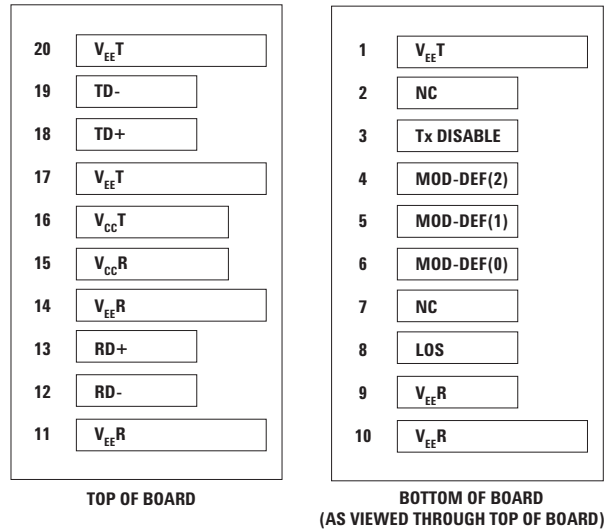
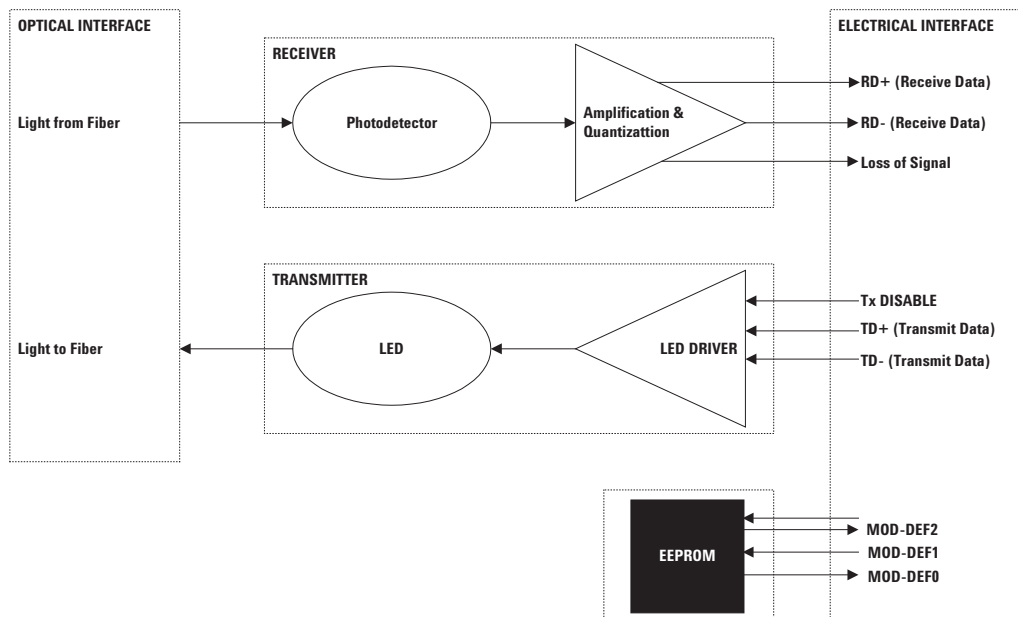

Figure 2. Connection diagram of module printed circuit board.
Figure 1. Transceiver functional diagram
Figure 1 illustrates the major functional components of the HFBR-5764AP. The connection diagram of the module is shown in Figure 2. Figures 5 and 7 depict the external configuration and dimensions of the module.
The HFBR-5764AP can be installed in or removed from many MultiSource Agreement (MSA)–compliant Small Form Pluggable port regardless of whether the host equipment is operating or not. The module is simply inserted, electrical interface first, under finger pressure. Controlled hot-plugging is ensured by design and by 3-stage pin sequencing at the electrical interface. The module housing makes initial contact with the host board EMI shield mitigating potential damage due to Electro-Static Discharge (ESD). The 3-stage pin contact sequencing involves (1) Ground, (2) Power, and then (3) Signal pins, making contact with the host board surface mount connector in that order. This printed circuit board card-edge connector is depicted in Figure 2.